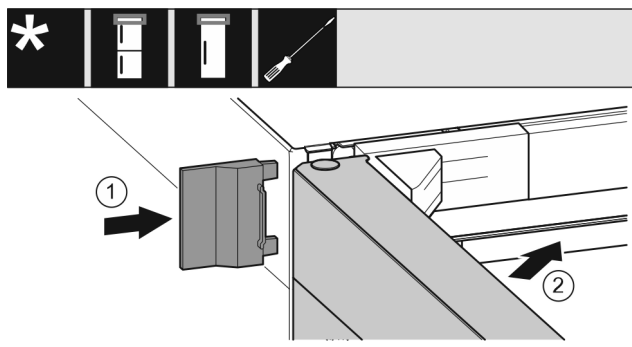

Fig. 28
- ▶ Push the outer cover Fig. 28 (1) on.
- ▶ Close the upper door Fig. 28 (2).